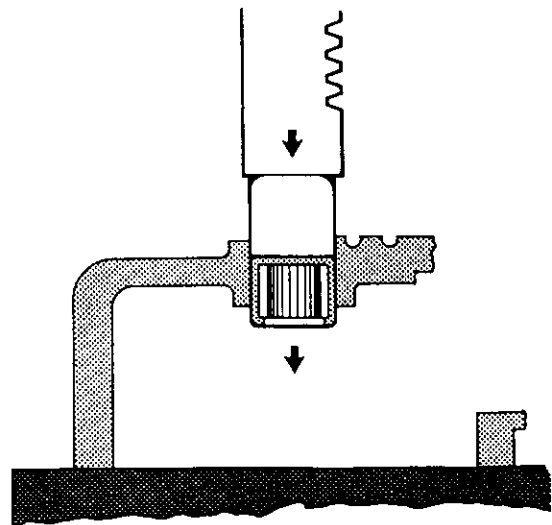

Figure 4.15
23. Using a thin knife blade, remove the piston actuator ring (17). A slight warming of the ring using a 60 watt light bulb will aid in ring removal. Remove piston actuator seal and discard both seal and ring.
24. Remove the six gear case screws (6) and lockwashers (5).
25. Remove gear case (4) using a thin knife edge or wide scraper blade to separate the gear case flange from the lower end plate. Remove all traces of old gasket (3) and O-ring from lower end plate.
26. Support the gear case (4) as shown in Figure 4.15 and press out the gear case bearing (7).